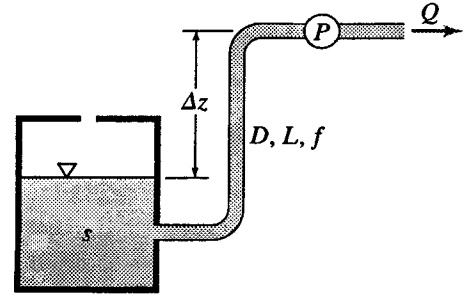

Figure P15.41
- 15.41 A centrifugal pump with $(N_s)_{SI} = 1.48$ is to pump 30 L/s of gasoline ($s = 0.82$, vapor pressure = 32 kPa) from an open tank (Fig. P15.41). The pump impeller rotates at 157 rad/s. Assuming the free surface in the tank is at elevation 100.0 m and the barometric pressure is 101 kPa abs, what is the highest elevation at which the pump centerline may be placed without cavitation problems? The suction pipe ($f = 0.022$) is 40 m long and has a diameter of 120 mm. Assume square entrance conditions where the pipe takes off from the tank. Express the answer in terms of h .